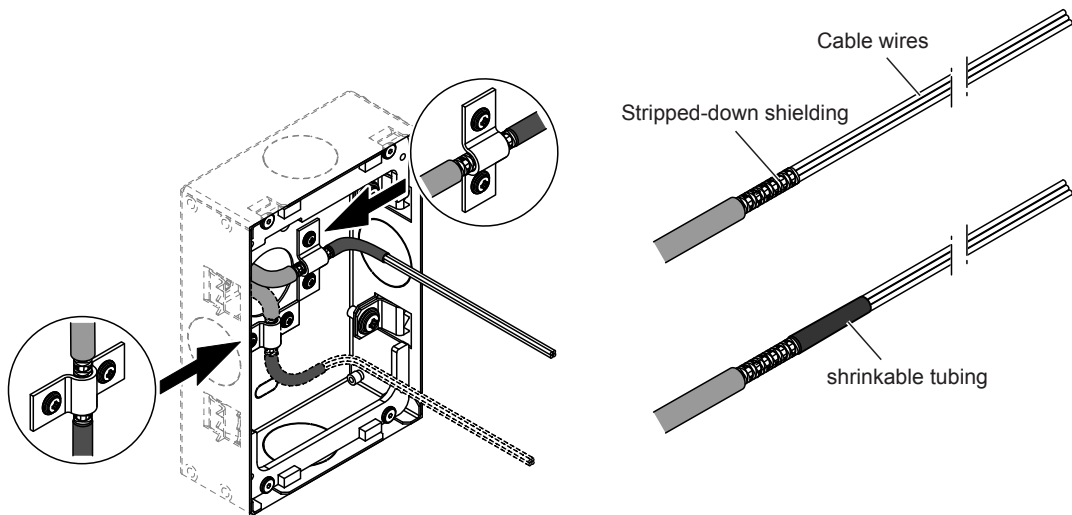

Fig. 8: Fix the CAN BUS cable(s) with exposed shielding to the housing with the shielding clamp(s)
4. Free the shielding of the CAN BUS cable(s) by removing the insulation from the appropriate clamping position to the end of the cable. Remove the exposed shielding to about 2 cm, then fix the end of the remaining shielding with a piece of shrink tubing as shown in Fig. 8 and secure the exposed shielding with the shielding clamp(s) to the housing.